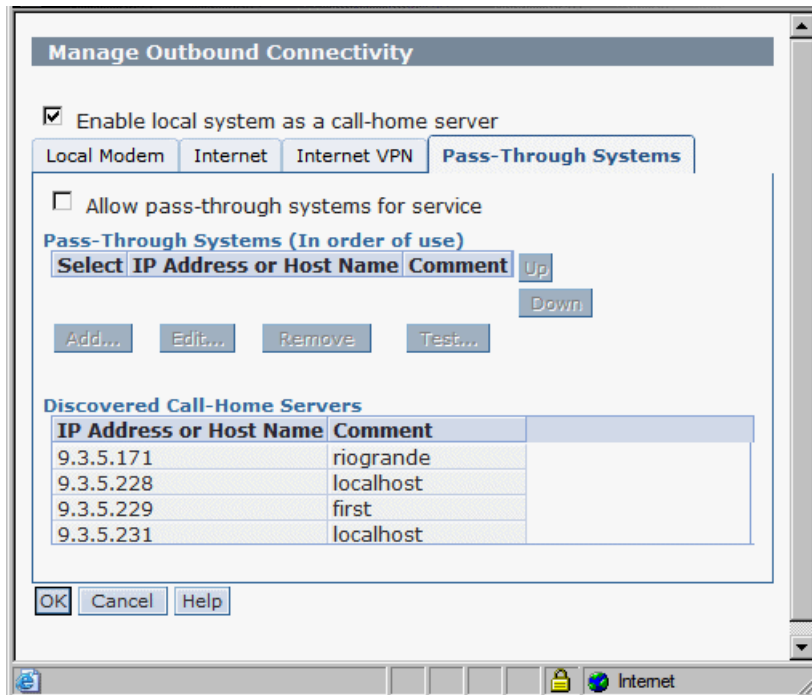

Figure 12-29 Manage Outbound Connectivity, Pass-Through Systems
1. Select **Allow pass-through systems for service** (Figure 12-29). Until you select this option, you will not be able to allow systems for pass-through nor will you be able to use the Edit, Remove, and Test options until you have added a server.